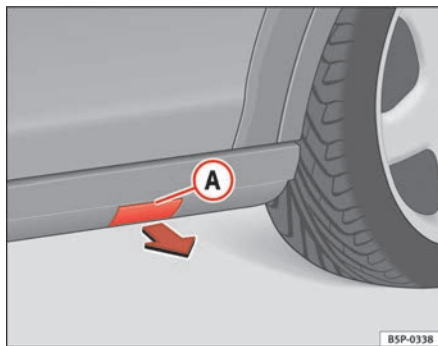

Fig. 174 Plastic skirting with jack allotment cover
- Remove the cap **A** to access the anchor point for the vehicle jack ⇒ fig. 174.
- Pull on the cover and remove it from its allotment in the direction of the arrow ⇒ fig. 174.